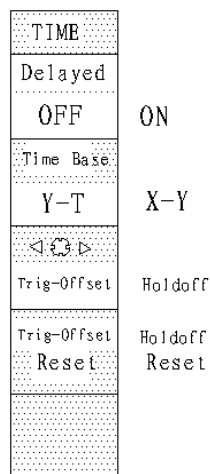

Fig.2-10
3、 Horizontal menu, as Fig.2-10.